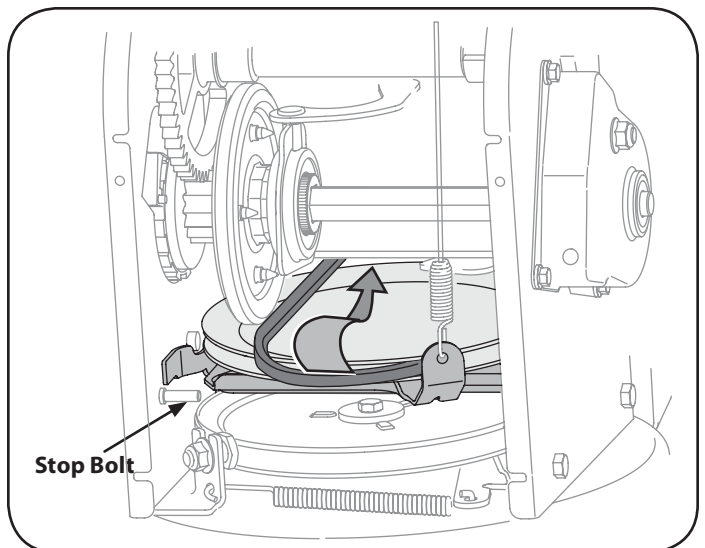

Figure 37
6. Back out the stop bolt to increase the clearance between the friction wheel disc and friction wheel. See Figure 37.
7. Slip the drive belt off the friction wheel disc and between friction wheel and friction wheel disc. See Figure 37.